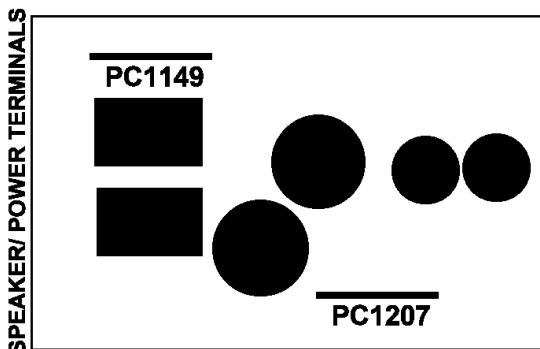

FIGURE 1 PC1207
- 1) Remove the (24) 9/64" allen screws from both lower sides of the chassis.
- 2) Remove the (2) #10 Torx screws from the bottom chassis underneath the tamper-proof labels.
- 5) Change R3 on the Digital Predriver Module (PC1207) from 22kΩ to 2.2kΩ (Infinity part# RS1703). PC1207 is the small upright board located near the main PCB filter capacitors. R3 is on the component side of the board facing the outside of the amplifier. See Figure 1.